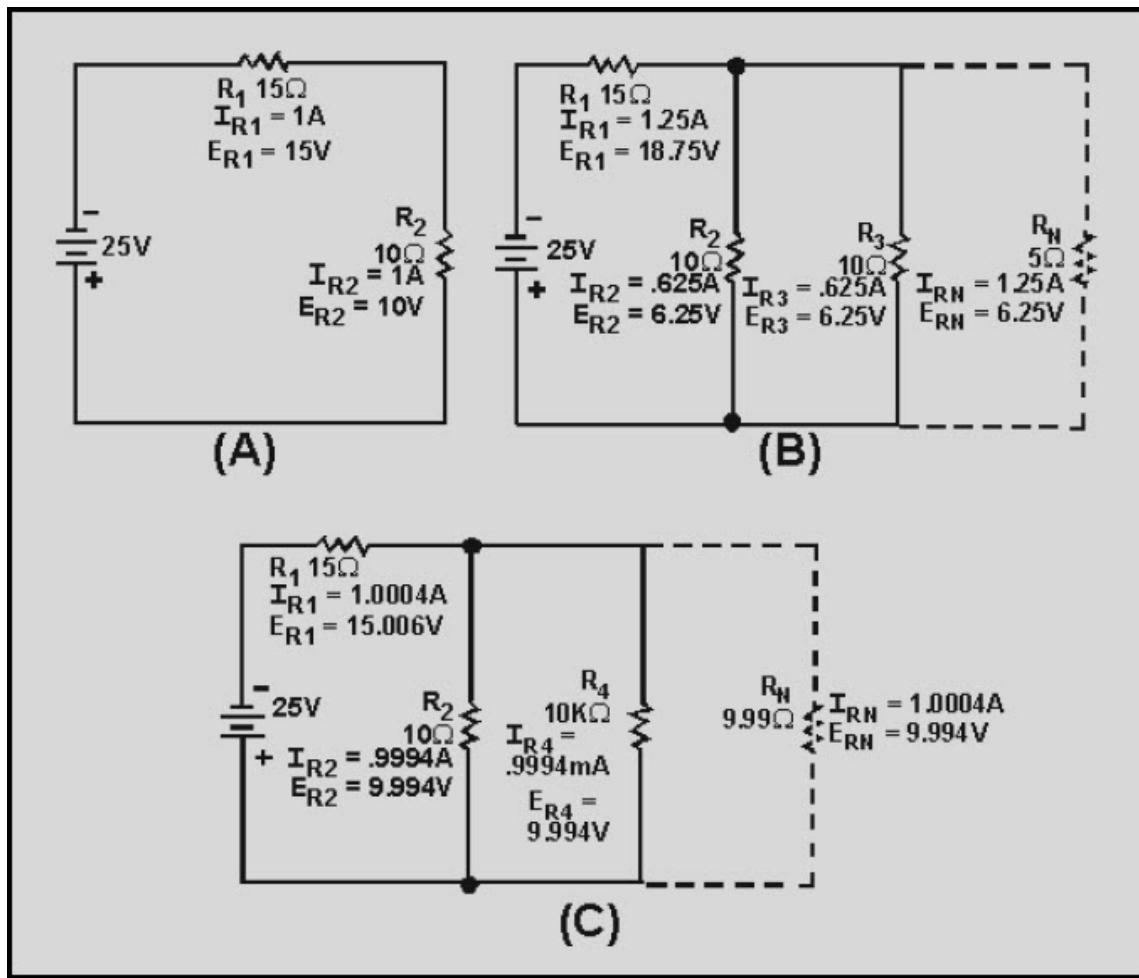

Figure 1-26 The loading effect
A voltmeter has an effect on the circuit being measured. This is called **LOADING** the circuit. Figure 1-26 illustrates the loading effect and the way in which the loading effect is kept to a minimum.
In figure 1-26(A), a series circuit is shown with R_1 equaling 15 ohms and R_2 equaling 10 ohms. The voltage across R_2 (E_{R2}) equals 10 volts. If a meter (represented by R_3) with a resistance of 10 ohms is connected in parallel with R_2 , as in figure 1-26(B), the combined resistance of R_2 and R_3 (R_n) is equal to 5 ohms. The voltage across R_2 and R_3 is now 6.25 volts, and that is what the meter will indicate. Notice that the voltage across R_1 and the circuit current have both increased. The addition of the meter (R_3) has loaded the circuit.
In figure 1-26(C), the low-resistance meter (R_3) is replaced by a higher resistance meter (R_4) with a resistance of 10 kilohms. The combined resistance of R_2 and R_4 (R_n) is equal to 9.99 ohms. The voltage across R_2 and R_4 is now 9.99 volts, the value that will be indicated on the meter. This is much closer to the voltage across R_2 , with no meter (R_3 or R_4) in the circuit. Notice that the voltage across R_1 and the circuit current in figure 1-26(C) are much closer to the values in 1-26(A). The current (I_{R4}) through the meter (R_4) in figure 1-26(C) is also very small compared to the current (I_{R2}) through R_2 . In figure 1-26(C) the meter (R_4) has much less effect on the circuit and does not load the circuit as much. Therefore, a voltmeter should have a high resistance compared to the circuit being measured, to minimize the loading effect.